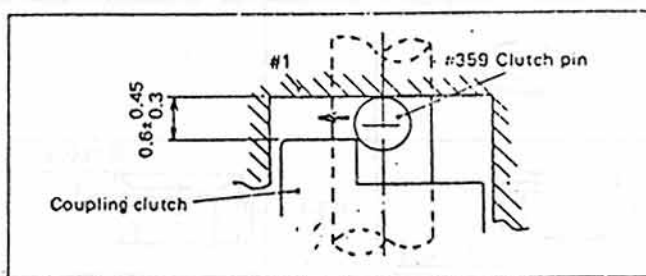

Fig. 1
- (1) The clearance between Top Cover P/N 1 and Coupling Clutch P/N 360 tends to become larger than the diameter of Clutch Pin P/N 361 due to the accumulation of tolerance deviations in various components; this causes P/N 359 to enter through the clearance.
- (2) When the rewind knob is pulled up, and then turned in order to "shove in" P/N 359, the clutch pin engages the coupling pin and then pushes P/N 1 up; this results in the rewind knob "running idly." (See Figures 1 and 2)